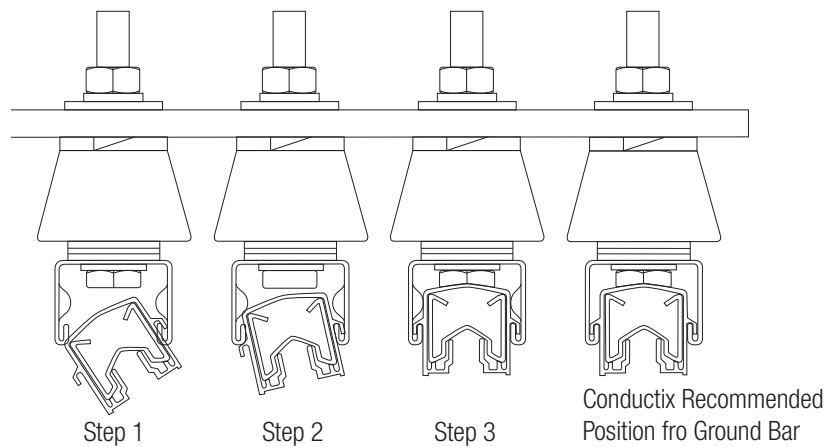

Figure: 5-4
5.2.4 Snap conductor bars into hangers (see Figure 5-4).